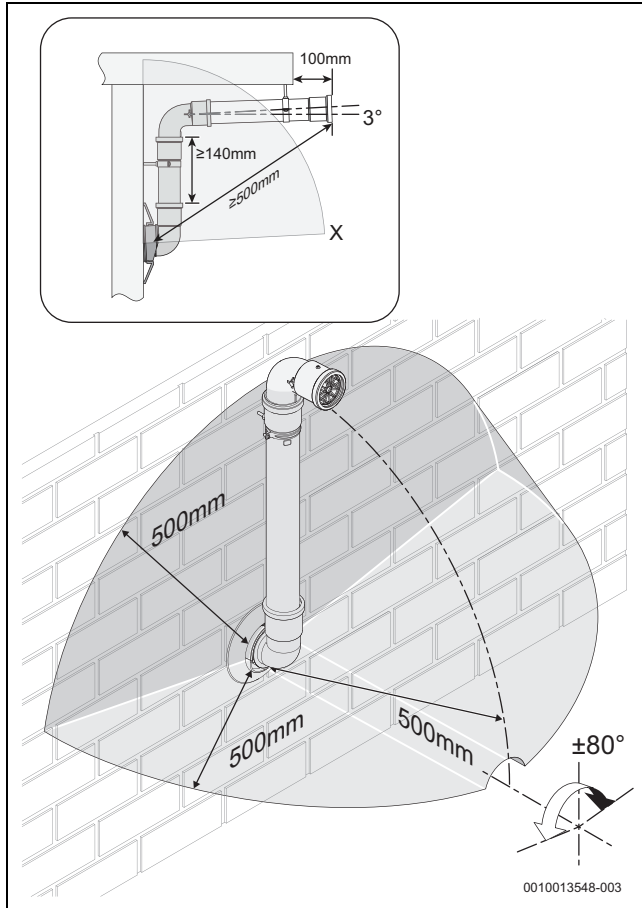

Fig. 36 Terminal exclusion zone
- ▶ Do not terminate the plume management inside the terminal exclusion zone (shaded area) shown in figure 36.